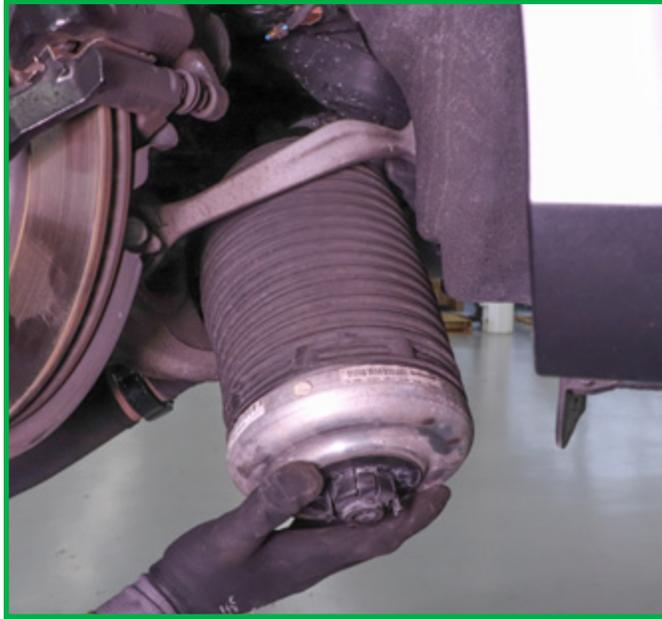

FIGURE 8
6. Compress and remove the air spring from the vehicle. (Figure 8)